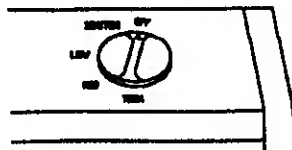

Figure 18 - Control Knob
3. Push in control knob slightly and turn clockwise to the OFF position. (see Figure 18).
5. Push in and turn control knob counterclockwise to PILOT position. Press in control knob for five (5) seconds.